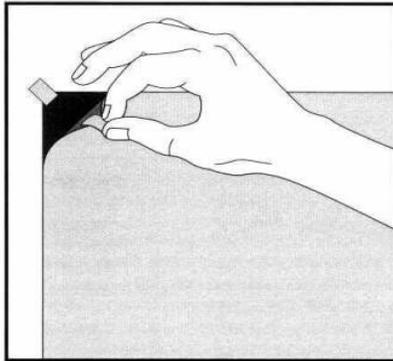

Figure 2
- 3) Carefully begin liner removal from a corner (See Figure 2) using either tape or your fingernail